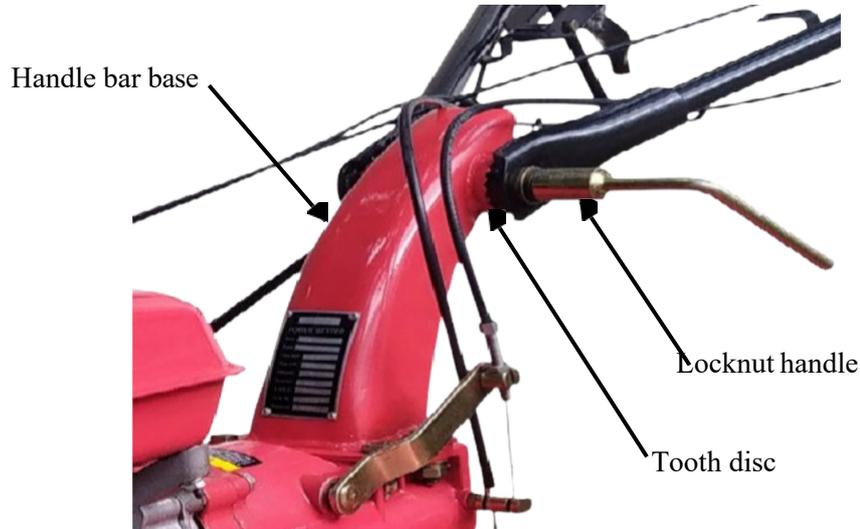

Figure. 11
2. Clearance adjustment of mesh of the gear in the Running case.(See Figure 11)